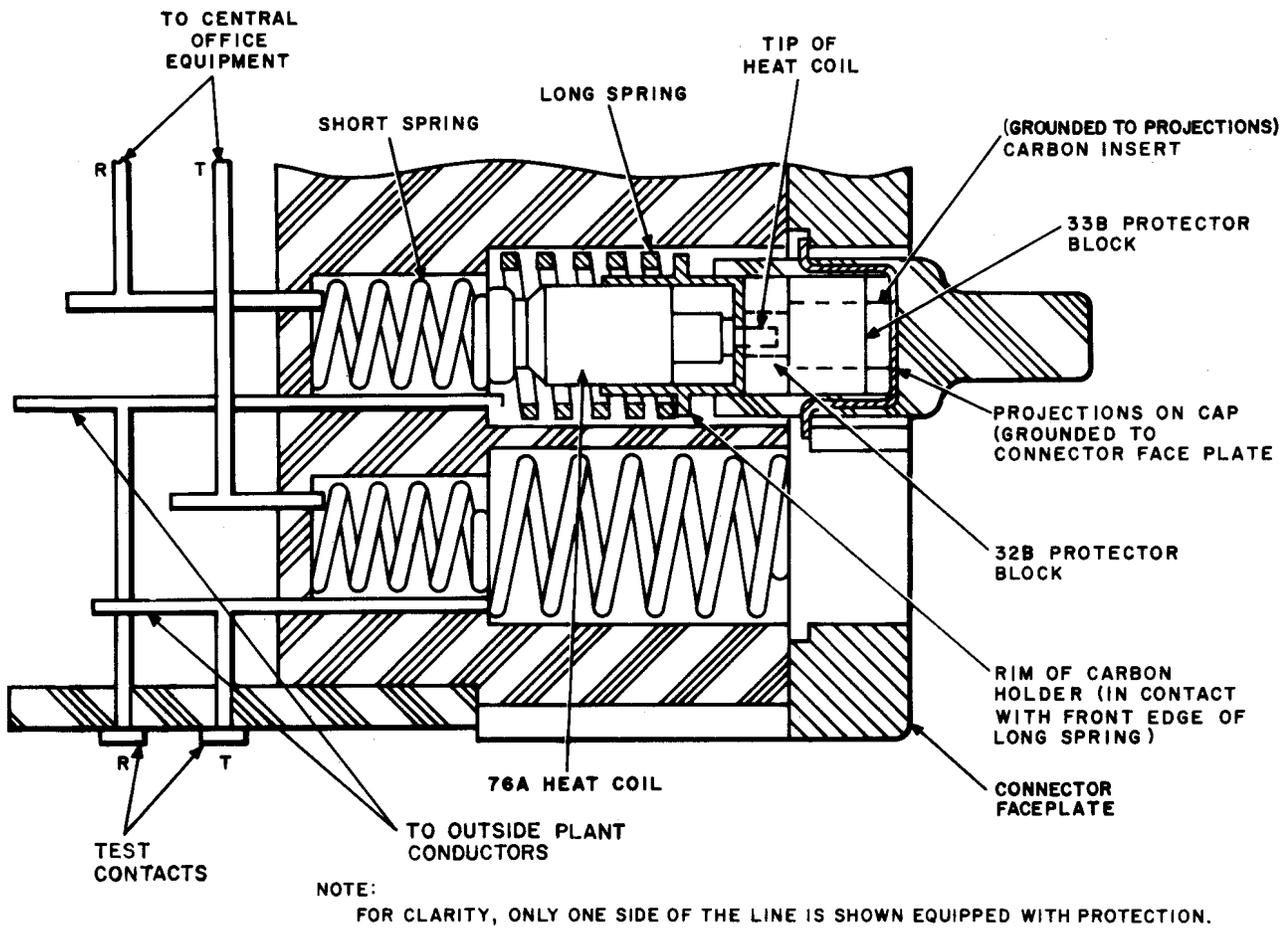

Fig. 7—Operation of Protector Unit
- 3.06** When the 76A heat coil operates, the tip of the coil passes through the hole in the 32B carbon block and makes contact with the grounded carbon insert of the 33B protector block (Fig. 7).